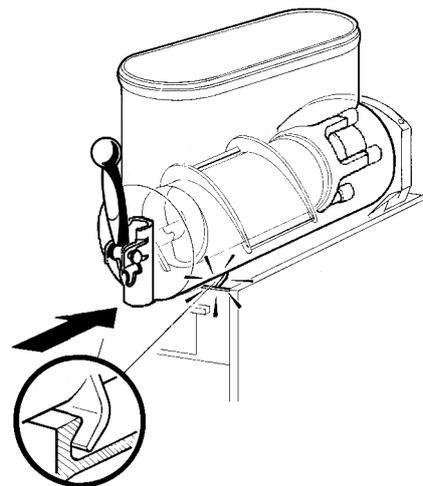

figure 18
- 6 Push the bowl towards the rear wall of the unit until it fits snugly around the gasket and its front fastening hooks are properly engaged (see figure 18).